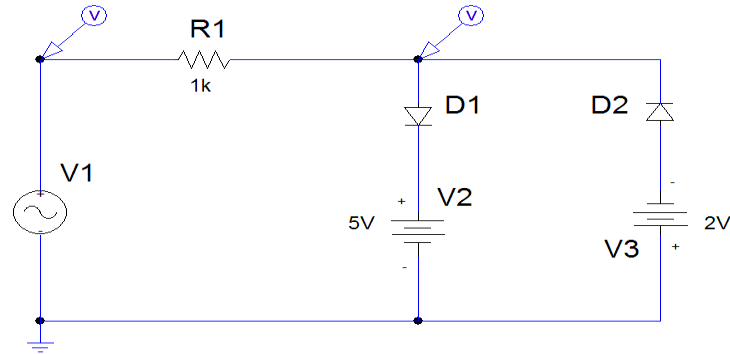

Fig.2. Clipper Circuit
- 2.1. Draw the circuit shown in Fig. 2 in PSpice schematics using 1N4001 (or any other) as diode module.
- 2.2. Here, for determining the input vs. output characteristics V1 is set to 1KHz and 10V (peak). Connect voltage markers as indicated in Fig. 2. Set transient analysis upto 5ms.